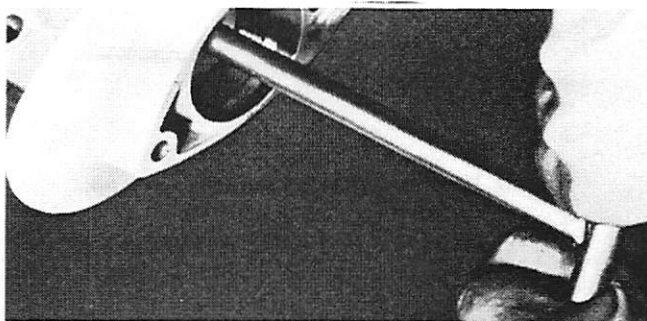

Figure 9. Removing & Installing Ball Bearing Lock Ring
B. Water Pump Cartridge: Water pump cartridge and drive shaft ball bearing are held in drive shaft housing by ball bearing lock ring. Remove lock ring with service tool 91-27532A1 by inserting drive end into recesses of lock ring and turning clockwise (left hand thread). (Figure 9)